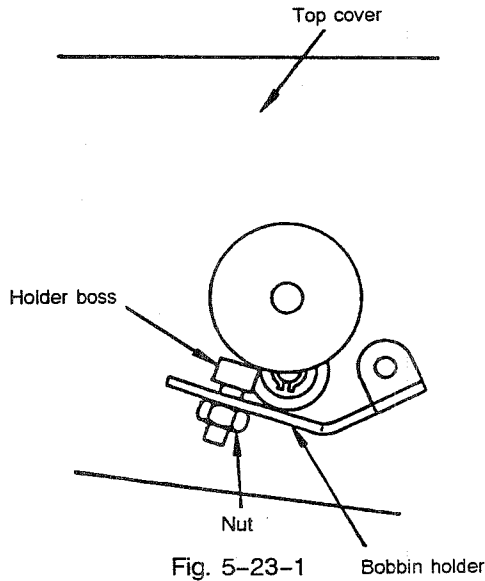
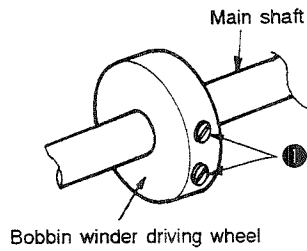
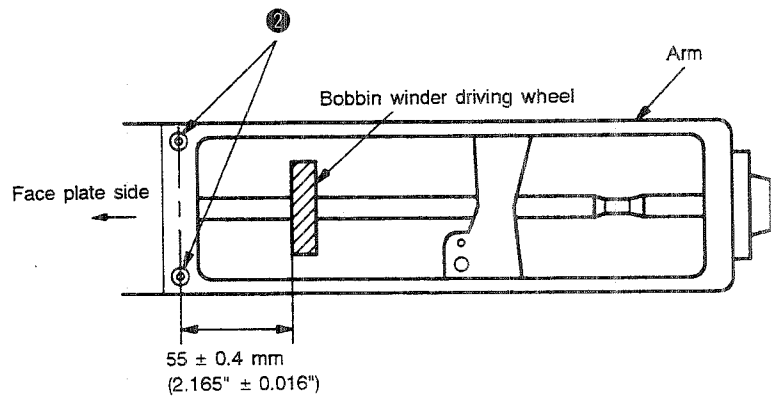

Fig. 5-23-1
Fig. 5-24-1
Fig. 5-24-2
<ul style="list-style-type: none"> ○ Loosen setscrews ❶, and adjust so that a $55 (2.165") \pm 0.4 \text{ mm } (0.016")$ distance is obtained from the end face of the bobbin winder driving wheel and the center of the top face of cover attaching taps ❷. Then tighten the setscrews so that the bobbin winder driving wheel is fixed at that position. (Fig. 5-24-1, Fig. 5-24-2) 	<ul style="list-style-type: none"> ○ The bobbin may fail to spin or the bobbin holder (Fig. 5-23-1) may fail to actuate, even if the bobbin is set on the bobbin winder. ○ The bobbin keeps on rotating after the bobbin has been fully wound.